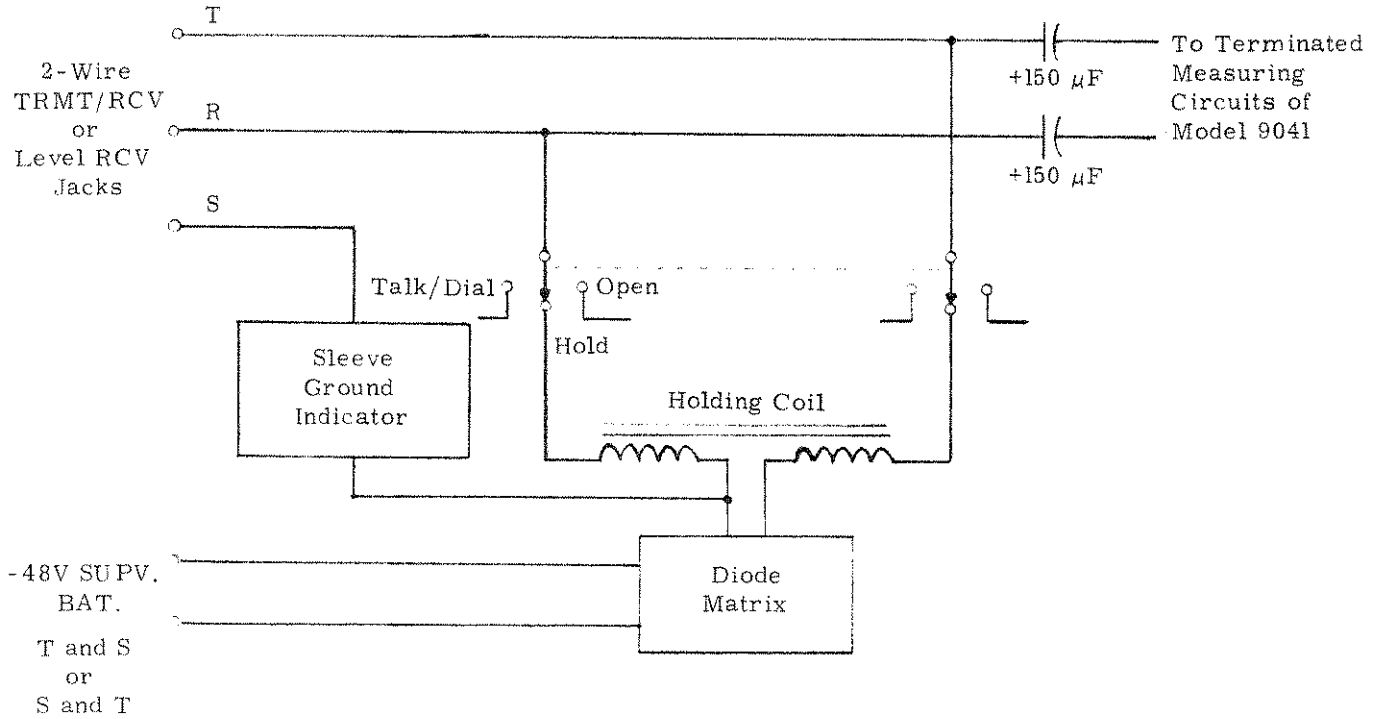

Figure 2-2. Incoming Trunk Supervision Circuit, Simplified Diagram
2.06 Figure 2-2 is a simplified diagram of the Incoming trunk supervision circuit. For 2-wire Incoming trunk measurements, the tests may be made at various 2-wire access points such as the Outgoing trunk (OGT) test frame. For this purpose a -48V battery (signal battery) is applied to the Model 9041 through an internal diode matrix and holding coil to the 2W TRMT/RCV or LEVEL RCV jacks. The diode matrix is used to ensure that an off-hook condition is applied to the line regardless of the sense of the battery input.